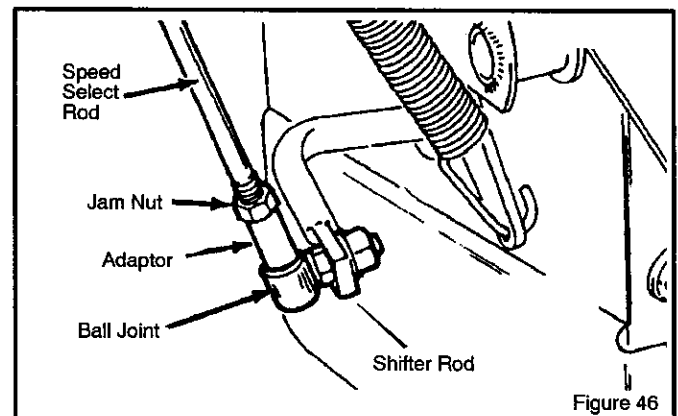

Figure 46
2. Loosen hex **jam nut** on **speed select rod**. Remove **ball joint** from **shifter bracket** (see Figure 46).
4. Turn the **adaptor** until the **ball joint** is aligned with the mounting hole in the **shifter rod** (see Figure 46). When aligned, attach the **ball joint** to the **shifter rod**.